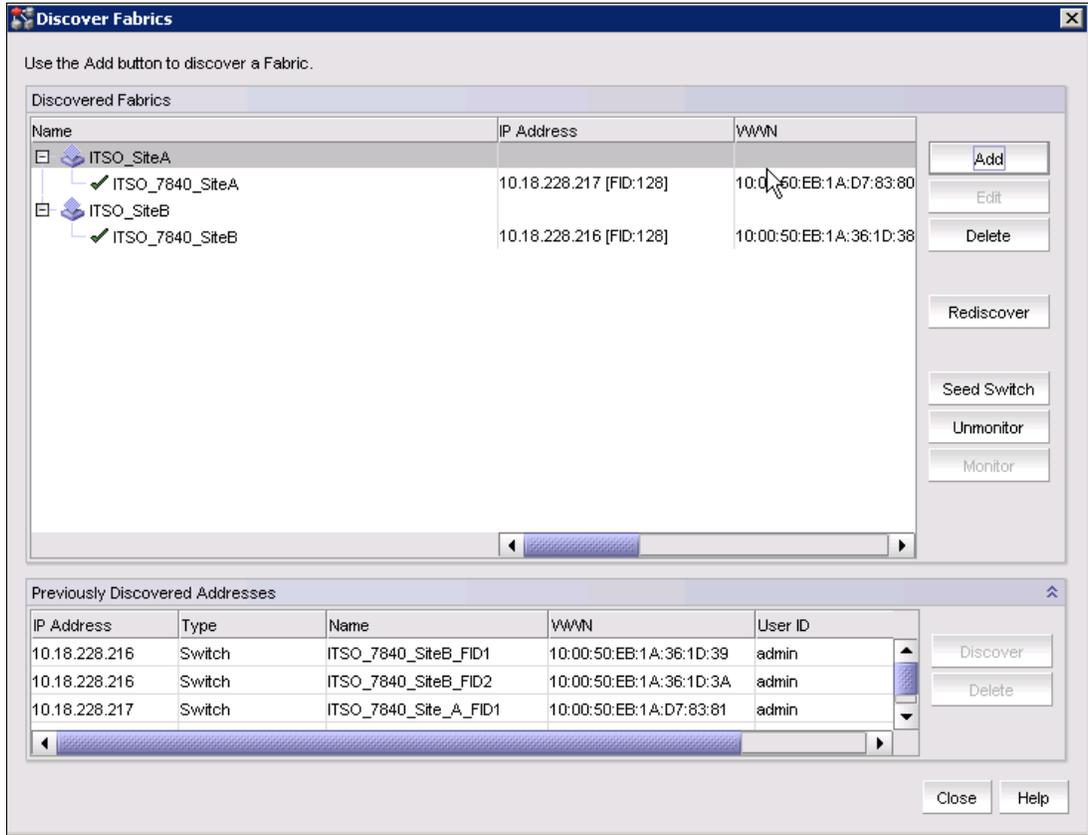

Figure 6-13 Add fabric for new logical switch
15. Click **Add** to discover new fabrics (Figure 6-13).